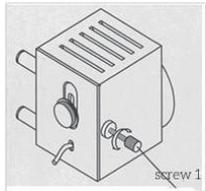

Figure 6.1 Loosening the screws
- 2) Loosen screw 1 counterclockwise; See Figure 6.1